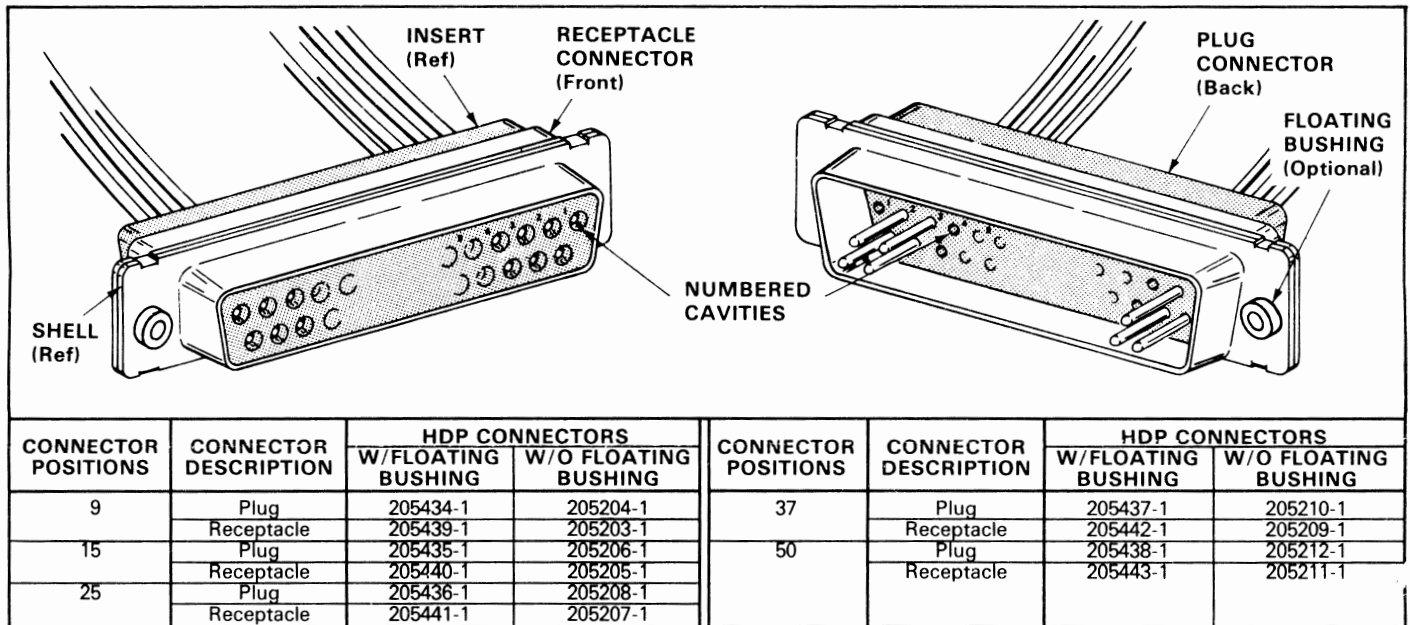

Fig. 1
This instruction sheet (IS) covers contact and wire selection, tooling application, attaching hardware, and panel cutout dimensions for AMPLIMITE High Density (HDP-20) Connectors listed in Figure 1. Read these instructions, and those referenced, before assembling any connectors.
**2. DESCRIPTION (Figure 1)**